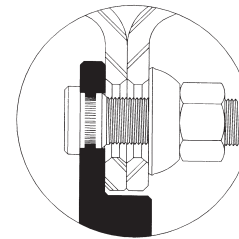

Figure 11
- Stud piloted wheels should not be used with hub piloted hubs, wheels, or flange nuts (See Figure 11). Chamfered stud piloted wheels do not have sufficient surface area near the bolt hole to support the flange nut. This type of mis-assembly may lead to loss of torque, broken studs, and cracked wheels. Information about mounting types and sizes is found in Accuride's Wheel and Rim Catalog.